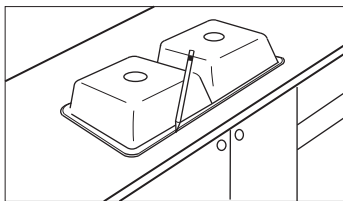

Figure 1
4. Place sink upside down on the counter top in desired position and trace completely outside sink rim using soft lead pencil. (Figure 1)